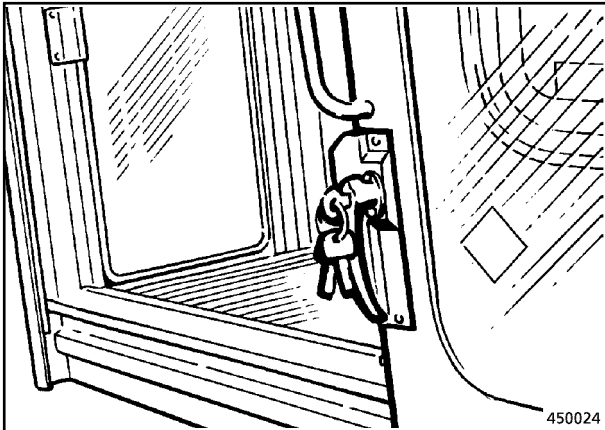

Fig. 1
- Unlock the door with the key (Fig. 1).